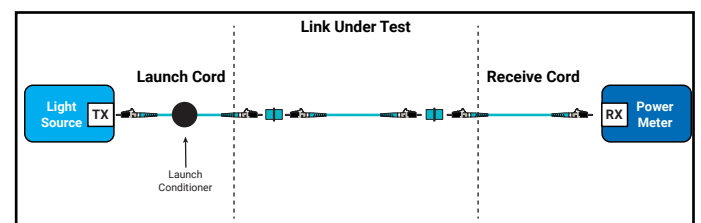

Figure 4a. Link segment testing
6. Connect to the ends of the link under test as shown in Figure 4a.